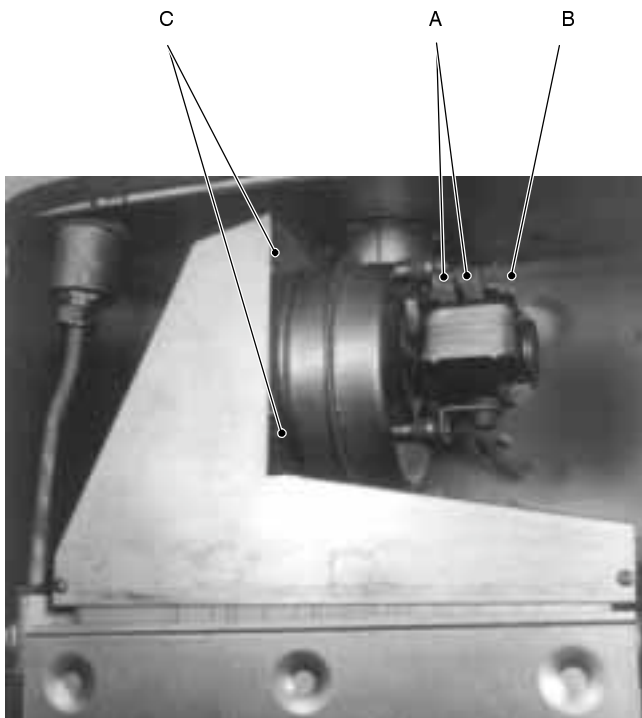

fig. 71
Disconnect the connectors A (fig. 71) and measure the electrical resistance of the motor that has to be about 47 Ω .
- 2 disconnect the connectors *A* and the earth connection *B* (fig. 71);